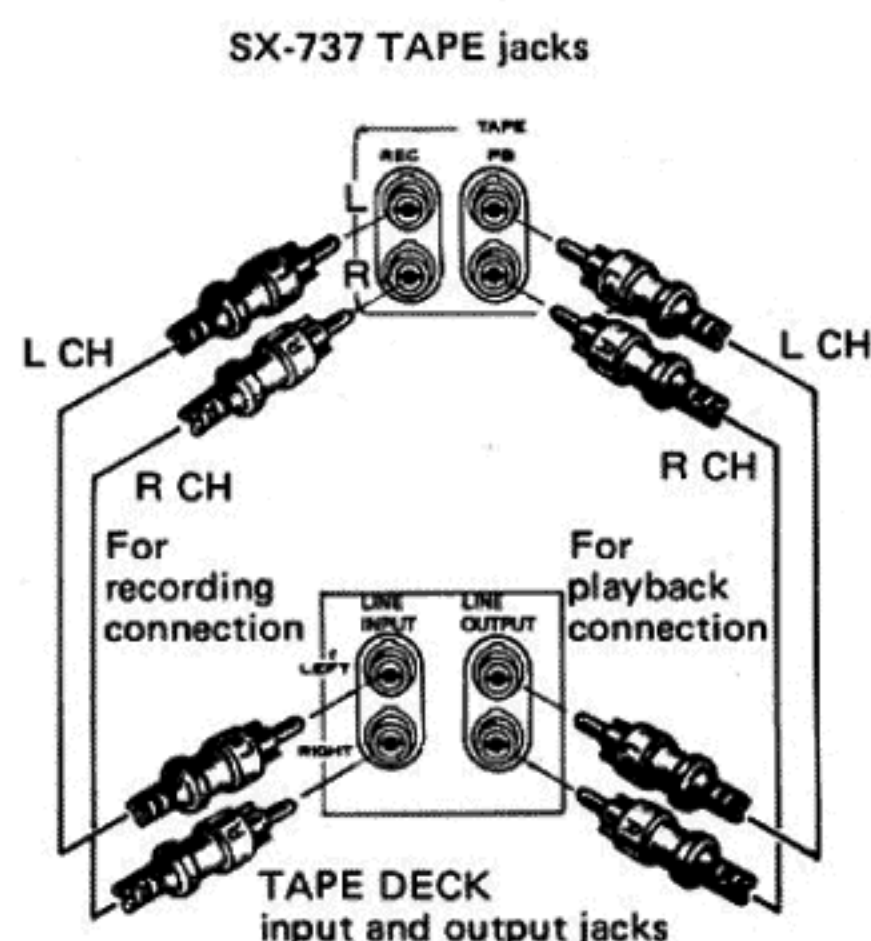

Fig. 8 — Connecting the SX-737 to tape deck.
- Connect the Receiver TAPE 1 REC output jacks to the tape deck recording input jacks (LINE INPUT), as shown in Fig. 8. The upper jack is for the left (L) channel and the lower for the right (R) channel.